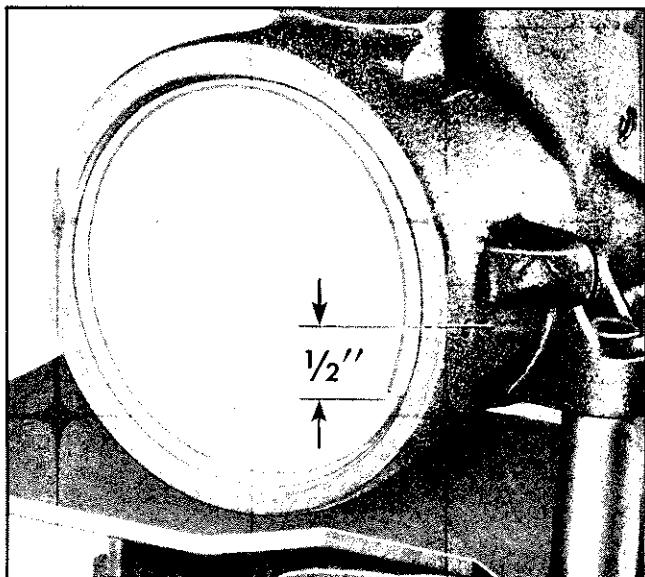

Fig. 9-69 Installing End Plug Retainer Ring
3. Install end plug retainer ring so end of ring extends over 1/2" beyond ring removal assist hole (Fig. 9-69).